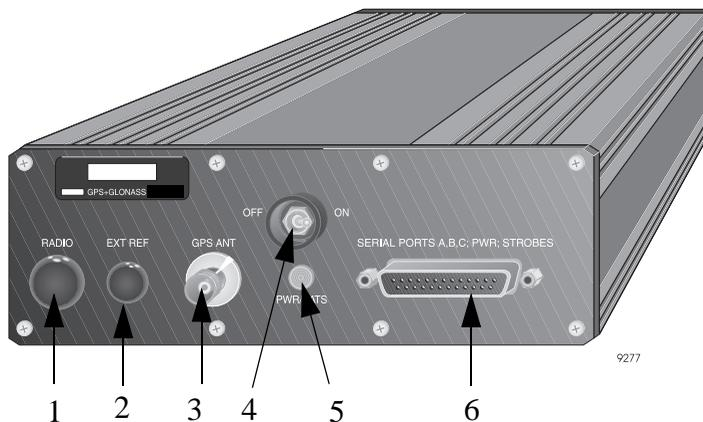

Figure 2.1: GG Surveyor
The GG Surveyor (Figure 2.1) has four RS-232 input/output (I/O) ports A-D (D is not available to the user), and an L1-band radio-frequency (RF) antenna port. All RS-232 serial ports are capable of two-way communication with external equipment.